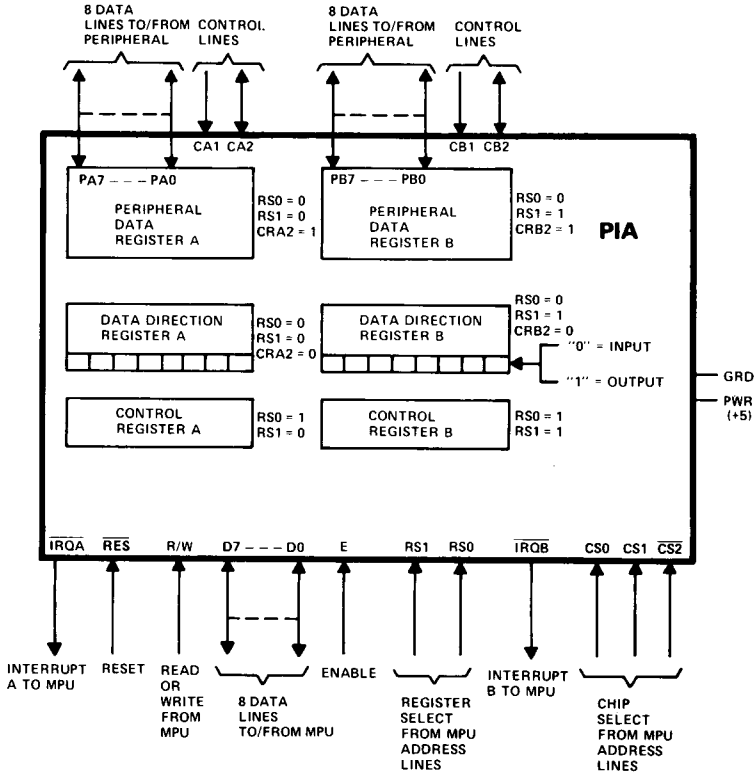
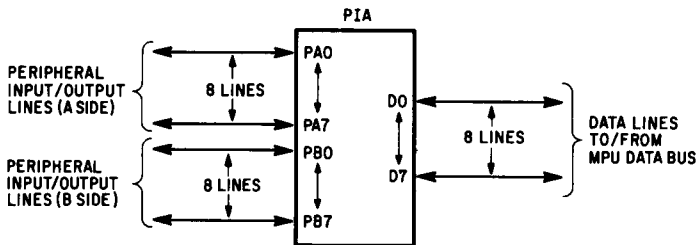
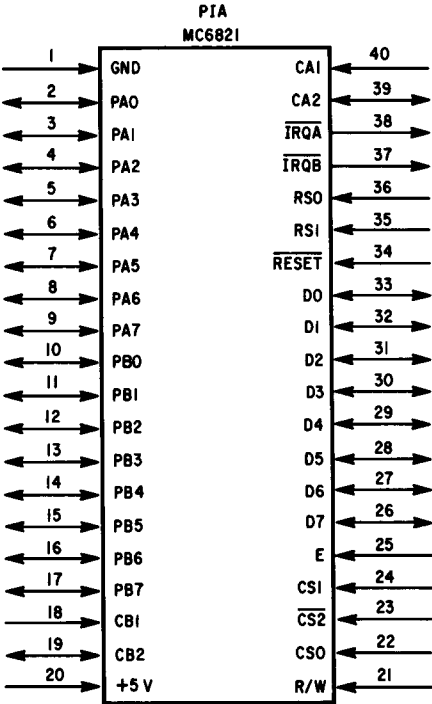

Fig. 9.14 MC6821 PIA
Fig. 9.15 MC6821 PIA input/output lines
Fig. 9.16 MC6821 package
The MC6821 Peripheral Interface Adapter (PIA) is an N-MOS device housed in a 40-pin package and used as a means of interfacing peripheral equipment and external signals with the MPU (Fig. 9.14). The PIA communicates with the MPU through the same eight-bit bidirectional data bus that the RAMs and ROMs share. The PIA has two separate eight-bit bidirectional peripheral data busses for interfacing to the outside world. The 16 bidirectional input/output lines may be programmed to act as either input or output lines (Fig. 9.15).
In addition to the 24 lines shown in Fig. 9.15, there are three chip select pins (CS0, CS1, and $\overline{\text{CS2}}$), a reset pin ($\overline{\text{RES}}$), two interrupt pins ($\overline{\text{IRQA}}$ and $\overline{\text{IRQB}}$), a read/write Pin (R/W), four control line pins (CA1, CA2, CB1, and CB2), an enable pin (E), two register select pins (RS0 and RS1), and two input power pins (+5 and ground), as shown in Fig. 9.16.